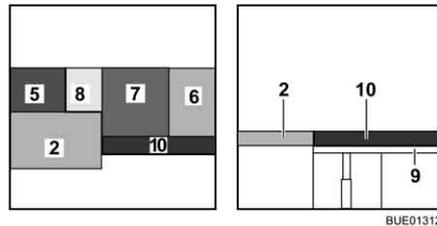

Fig. 132 After conversion
- Hook the bed widening (Fig. 132,9) into the recesses on the bench seats.
- Place the additional cushion (Fig. 132,10) on the bed widening.